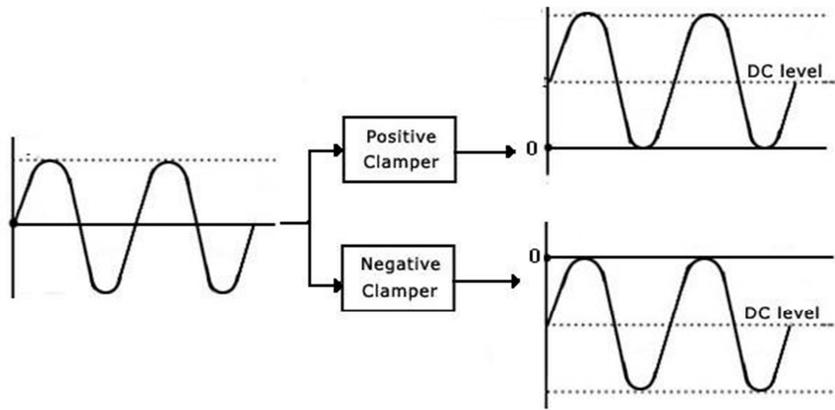

Figure.3
the DC voltage. The output signals from the positive and the negative clamper circuits are shown in Figure 3.
- On the same circuit shown in Figure 3 use $R_L = 1\text{ k}\Omega$, and $C = 1.0\mu\text{F}$, measure the ripple voltage (V_{r-PP}) when the input signal frequency is 500Hz, 1kHz, 5kHz and 10kHz and record them in Table 6 in the answer sheet. What is the effect of increasing input signal frequency on the ripple voltage? Explain.